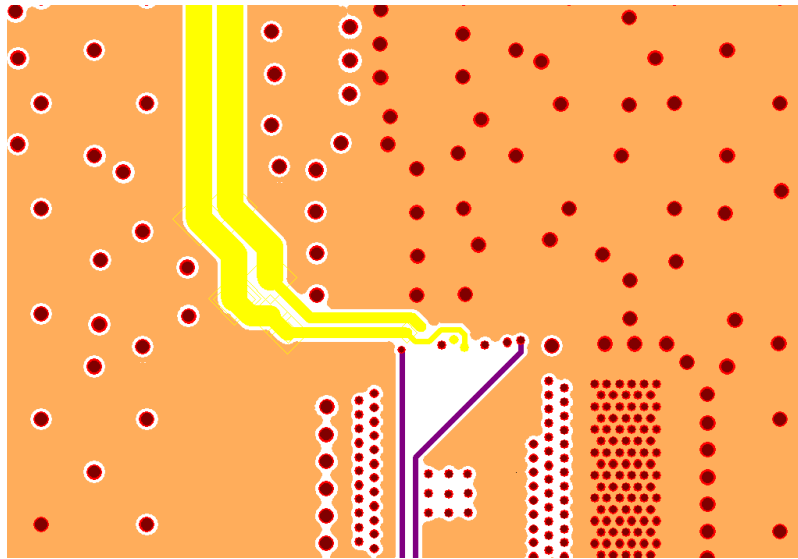

**Figure 15: Backside Decoupling**
**Recommendation 7:** Figure 15 also shows the 0Ω resistor that connects AGND to PGND. The recommended connecting point, as shown, is to a quiet PGND → the output capacitors PGND.